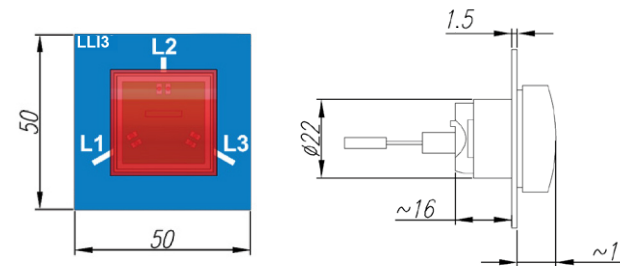

Fig.4. Dimensions and installation method of external Live Line Indicator LLI3
- External Live Line Indicator LLI3 (option, fig. 4) 1 pc.